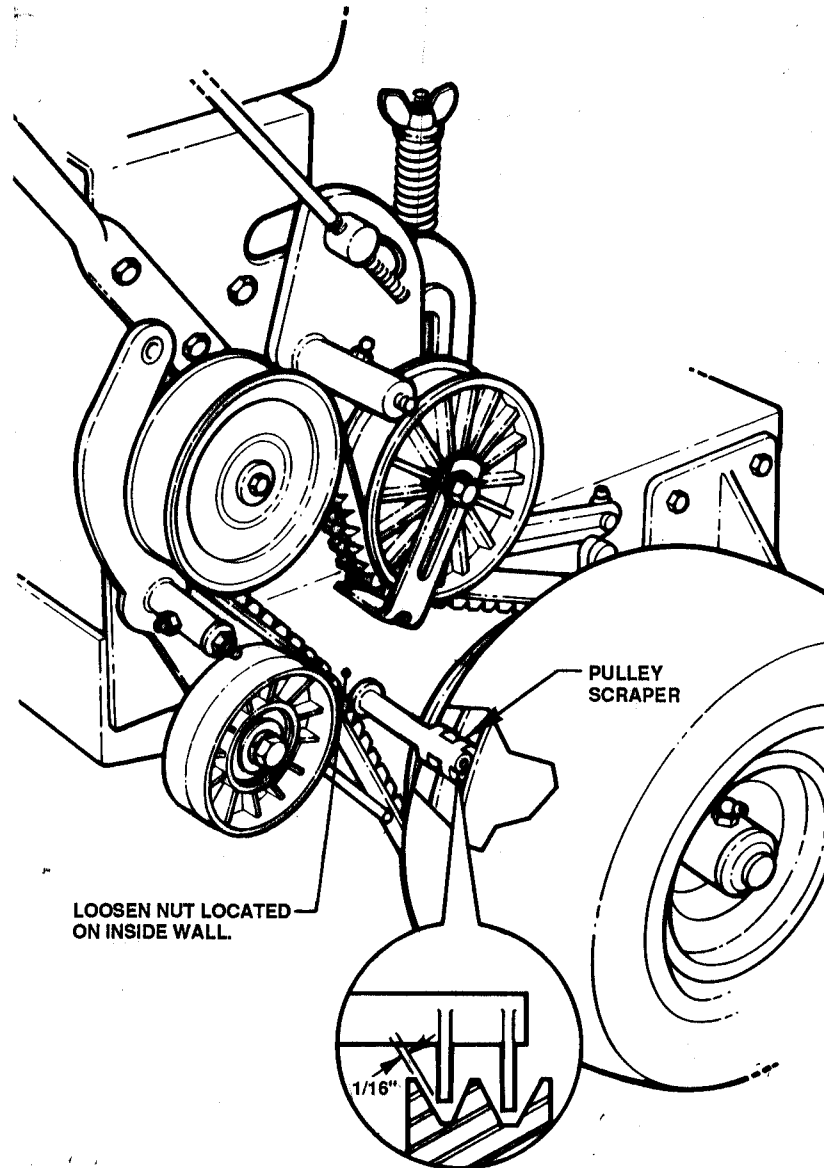

FIGURE 35
1. Loosen pulley scraper nut located on inside wall of rear housing. See Figure 35.